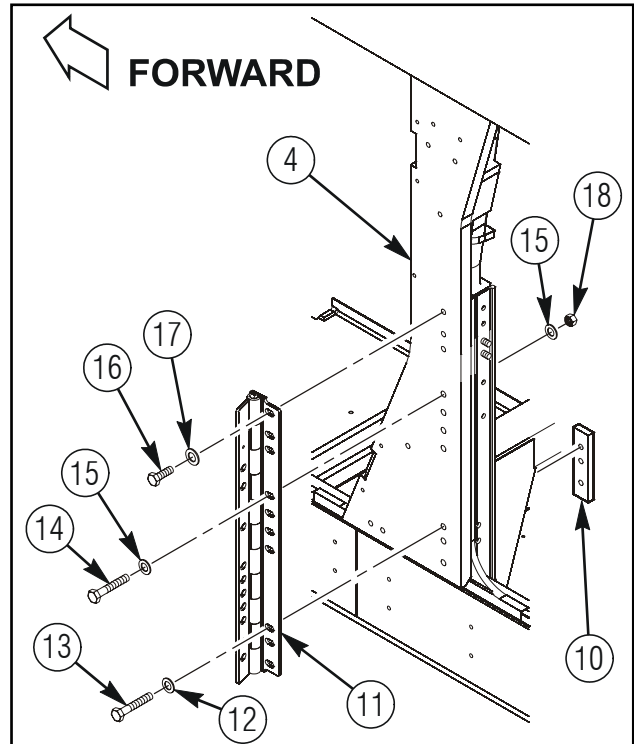

Figure 13b.
15. Apply 8030-01-025-1692 sealing compound to threads of three 4397000-060 capscrews (16) and three 4397000-067 capscrews (13). Refer to figure 13b.
16. Install 6435094-01M1 left side door hinge (11) on B-pillar plate (4) with three 4397000-060 capscrews (16) and 4397005-015 washers (17) as shown in figure 13b. Do not tighten capscrews (16) at this time.
18. Install four 4397000-067 capscrews (14), eight 4397005-015 washers (15), and four 4397064-005 locknuts (18) as shown in figure 13b. Position capscrews (13, 14, and 16) in center of slotted holes in hinge (11), and tighten top and bottom capscrews (16 and 13) to 37 lb-ft (50.2 N·m), then snug up remaining capscrews (13 and 16) and locknuts (18).